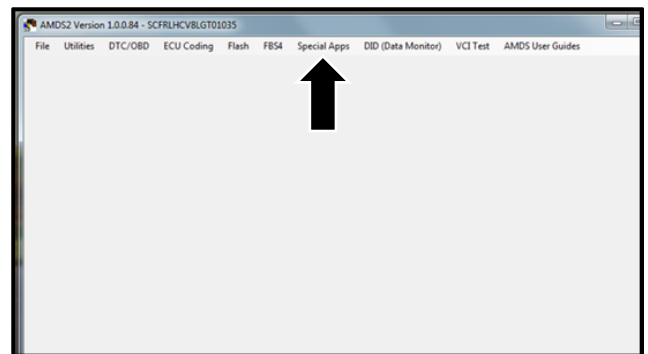

Figure 12
22. After you have flashed the ECM do a check to make sure the injector codes are shown. Select "Special Apps" (refer to Figure 12).